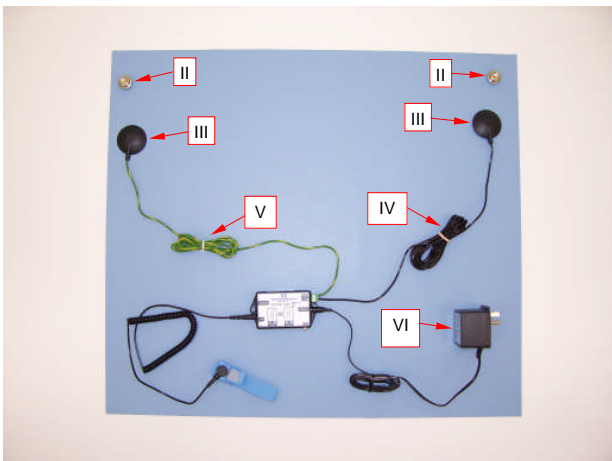

Figure 3. Installation of the WSM-GG3 Work Station Monitor
- I. The Multi-Mount Continuous Monitor may be mounted to a convenient location using the included mounting screws or Velcro® set. See Figure 3 for installation set-up.
- The work surface resistance is measured between the two snaps installed to the mat worksurface (See Figure 3).